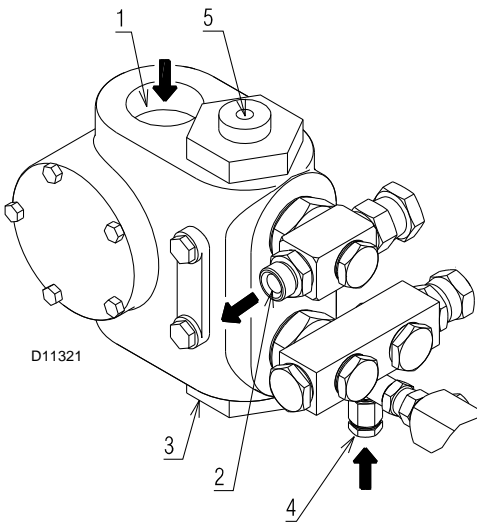

Fig. 20
Key (Fig. 20)
- In order for self-priming to take place, the screw 4) on the pump (Fig. 20) must be loosened to bleed off the air contained in the suction line.
If the pump has been drained, fill it with fuel through the opening on the vacuummeter 4)(Fig. 20) prior to starting; otherwise, the pump will seize.